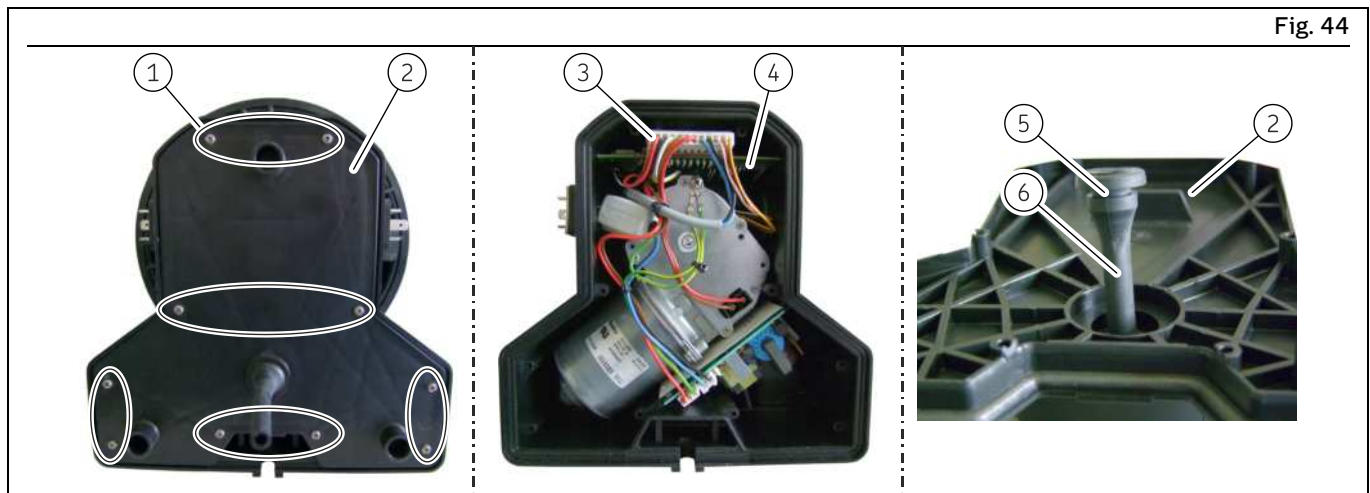

Fig. 44
3. Remove the screws (Fig. 44/1) from the housing cover (Fig. 44/2).
5. Pull the plugs (Fig. 44/3) out of the control circuit board and pull the control circuit board (Fig. 44/4) out of the two side guide rails.
9. Guide the dewatering hose (Fig. 44/6) through the housing cover (Fig. 44/2) from the rear until its groove (Fig. 44/5) engages securely in the housing cover